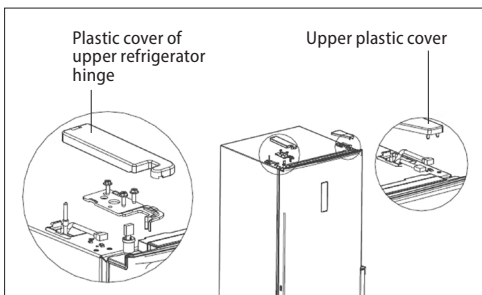

Fig. 7
16. In the package with accessories, you can find the upper hinge of the refrigerator, which is to be installed on the other upper side of the unit as shown in Fig. 7.
17. Connect the connectors and install the upper plastic covers (Fig. 7).